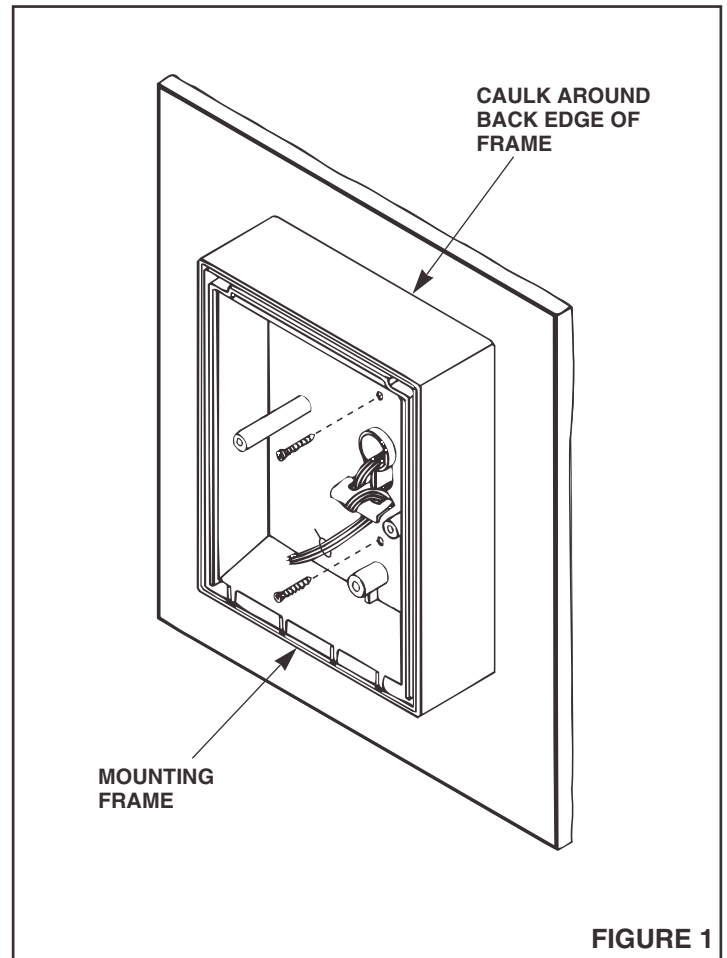

FIGURE 1
2. **Refer to Figure 1.** Run wiring through hole in the mounting frame. Wrap cable around plastic projection under wiring access hole.
3. **Refer to Figure 1.** Secure mounting frame to wall with two (2) #6 – 32 x 1¼" mounting screws.